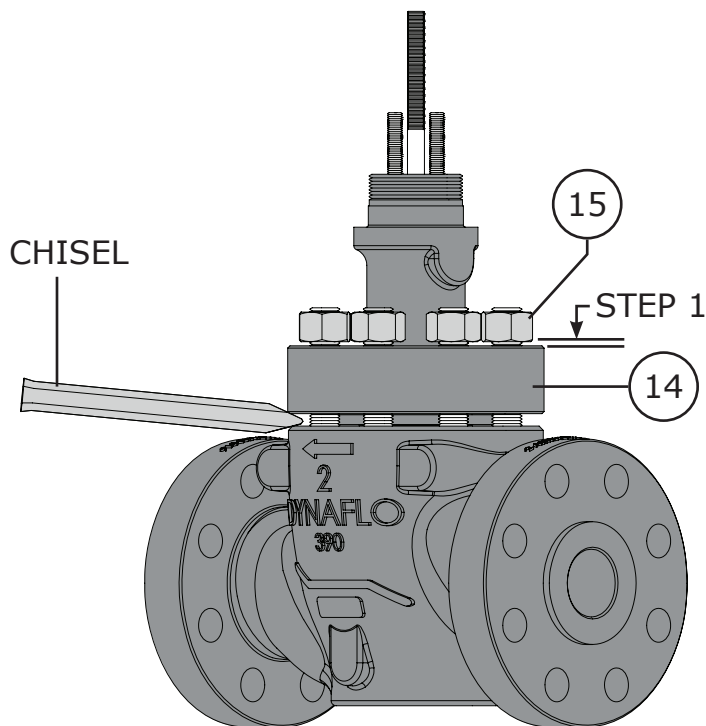

Figure 7 Bonnet Removal (Steps 1 - 2)
- 1 Loosen the bonnet nuts (Key 15) 1 full turn after the contact between the nuts and the top surface of the bonnet (Key 14) has been broken. Do not remove the bonnet nuts until any trapped process pressure has been vented. Refer to Figure 7.